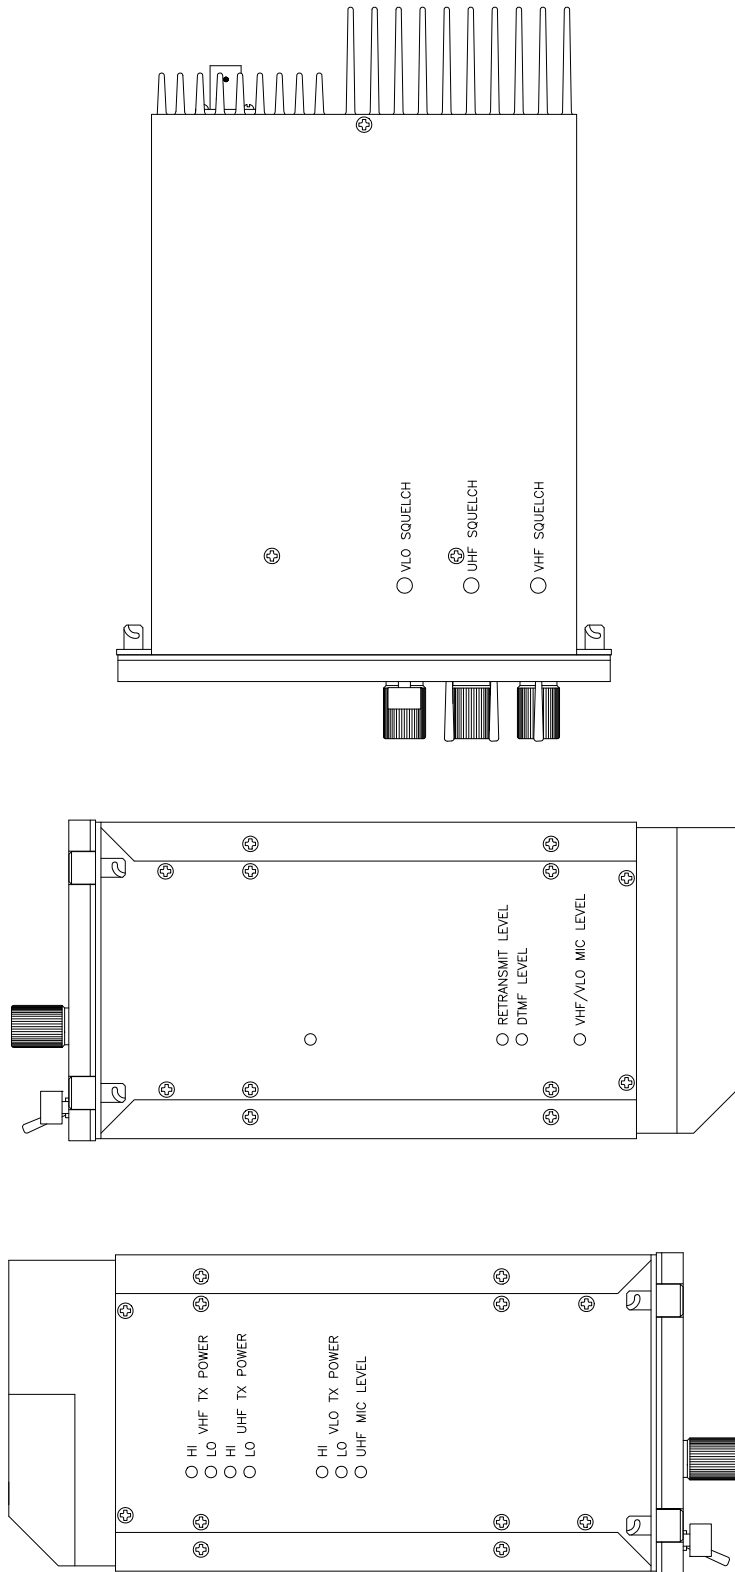

FIGURE 3-4 External Adjustment Access Holes
3. In low power mode, set the low power adjustment potentiometer on the left side of the chassis to produce 1.0 watt of RF output power (See Figure 3-4).